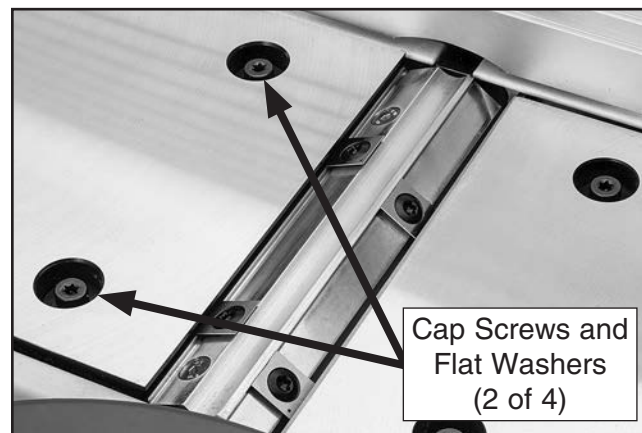

Figure 47. Example of outfeed table leveling adjuster location.
2. Access outfeed table leveling adjusters by removing (4) cap screws and flat washers from table openings (see **Figure 47**).